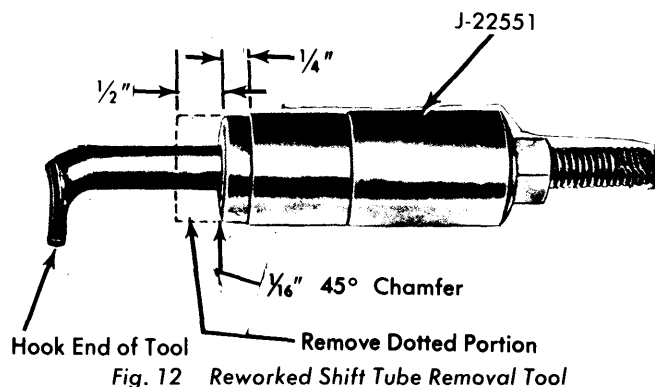

Fig. 12 Reworked Shift Tube Removal Tool
7) Rework a shift tube removing tool (J-22551) by removing  $\frac{1}{2}$ " from pilot end of tool as shown in Fig. 12. Remove shift tube assembly using reworked tool as follows: Insert hooked end of tool into notch in shift tube just below shift lever housing key. Pilot sleeve over threaded end of tool and into upper end of shift tube. Force shift tube out of housing by turning nut onto the tool. If shift tube is not completely free when nut is bottomed on its threads, complete removal by hand. **CAUTION** — Do not hammer on shift tube during removal. On column shift models, guide lower shift lever through slotted opening in column to prevent damage to tube or column.